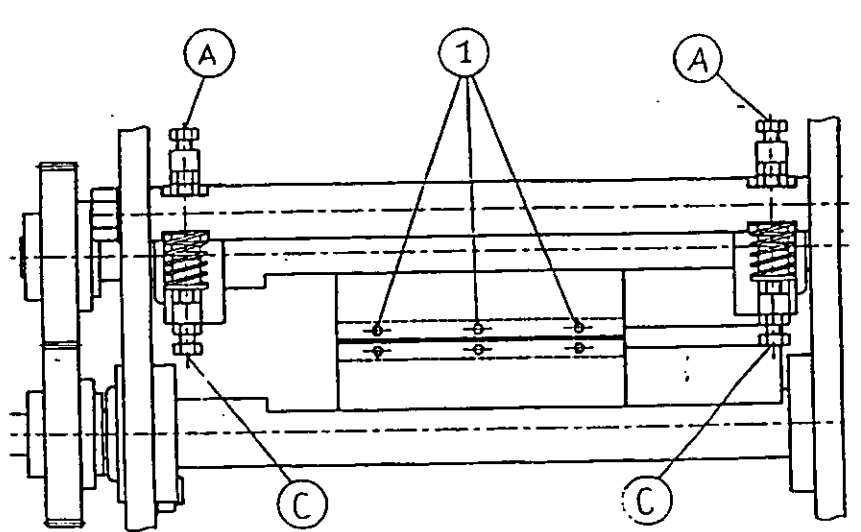

Fig. 25
1. The upper knife is removed by loosening the 3 fixing screws, Fig. 25, Pos. 1.
3. In order to obtain correct and complete end sealing it is necessary that the two sealing jaws are completely parallel. This can be adjusted by means of the two adjusting bolts, Fig. 25, Pos. A. Adjustment of the pressure between the two jaws in the end sealing is done by means of the two adjusting bolts shown on Fig. 25, Pos. C. The ideal pressure is individual for each type of wrapping material.